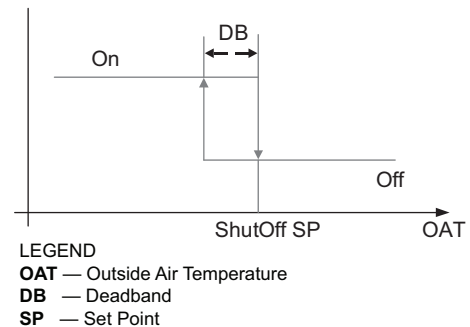

Fig. 72 — Hysteresis Settings
Hysteresis setting (DB) defaults to 2°F (–17°C). See Fig. 72.